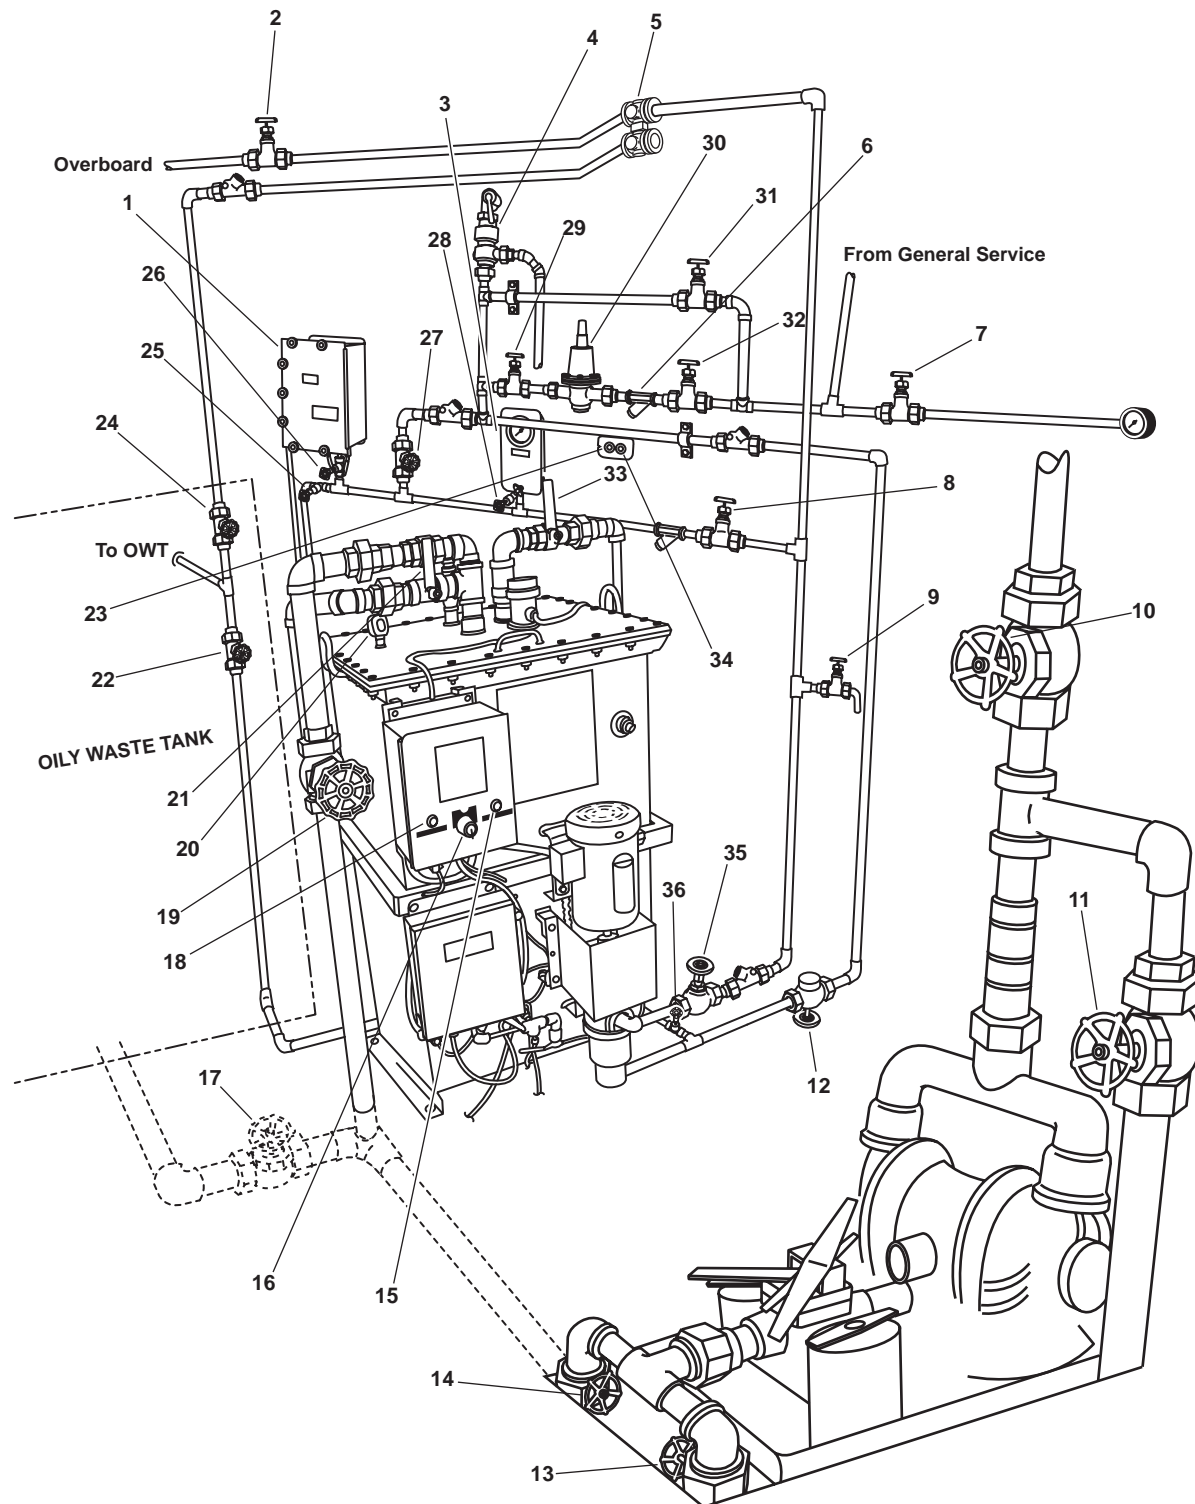

Figure 12. Oil Water Separator (OWS) and Oil Content Monitor (OCM), Engine Room
Table 12. Oil Water Separator (OWS) and Oil Content Monitor (OCM), Engine Room (refer to figure 12)
**Table 12. Oil Water Separator (OWS) and Oil Content Monitor (OCM), Engine Room (refer to figure 12)